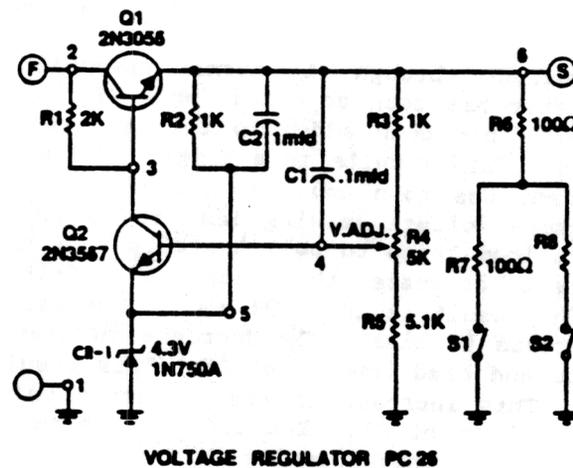

Fig 13
In this case, all signals are DC voltages and not AC signals like you are accustomed to seeing. The error signal is the result of comparing the reference voltage (A) and the sample (B) of the output. In the circuit we will discuss, the comparator is a transistor connected in the common emitter configuration. An increase on the base results in a decrease on the collector. If the output of the regulating device remains constant, the error signal will remain constant. If, for some reason, the output attempts to increase or decrease, the sample voltage will change in the same direction. The comparator will compare this voltage to the reference and change the error signal. If the output increases, the sample increases. The comparator output, (error voltage), will then decrease. This decrease will be applied to the regulating device resulting in its resistance increasing thereby dropping the output back to normal. The comparator, (Q2), also serves as a voltage amplifier. Any change in the output DC voltage will be felt across the sensing network and a portion of the voltage is felt by Q2's base. If Q2 has a gain of 10 the change on Q2's collector will be ten times larger than the voltage change on its base. This means a fairly small change in the regulated output will result in a large error signal being generated. If the gain of Q2 is increased the same change in regulated output will result in a larger error signal. This serves to increase the sensitivity of the circuit. Refer to the schematic of PC26, fig. 13.